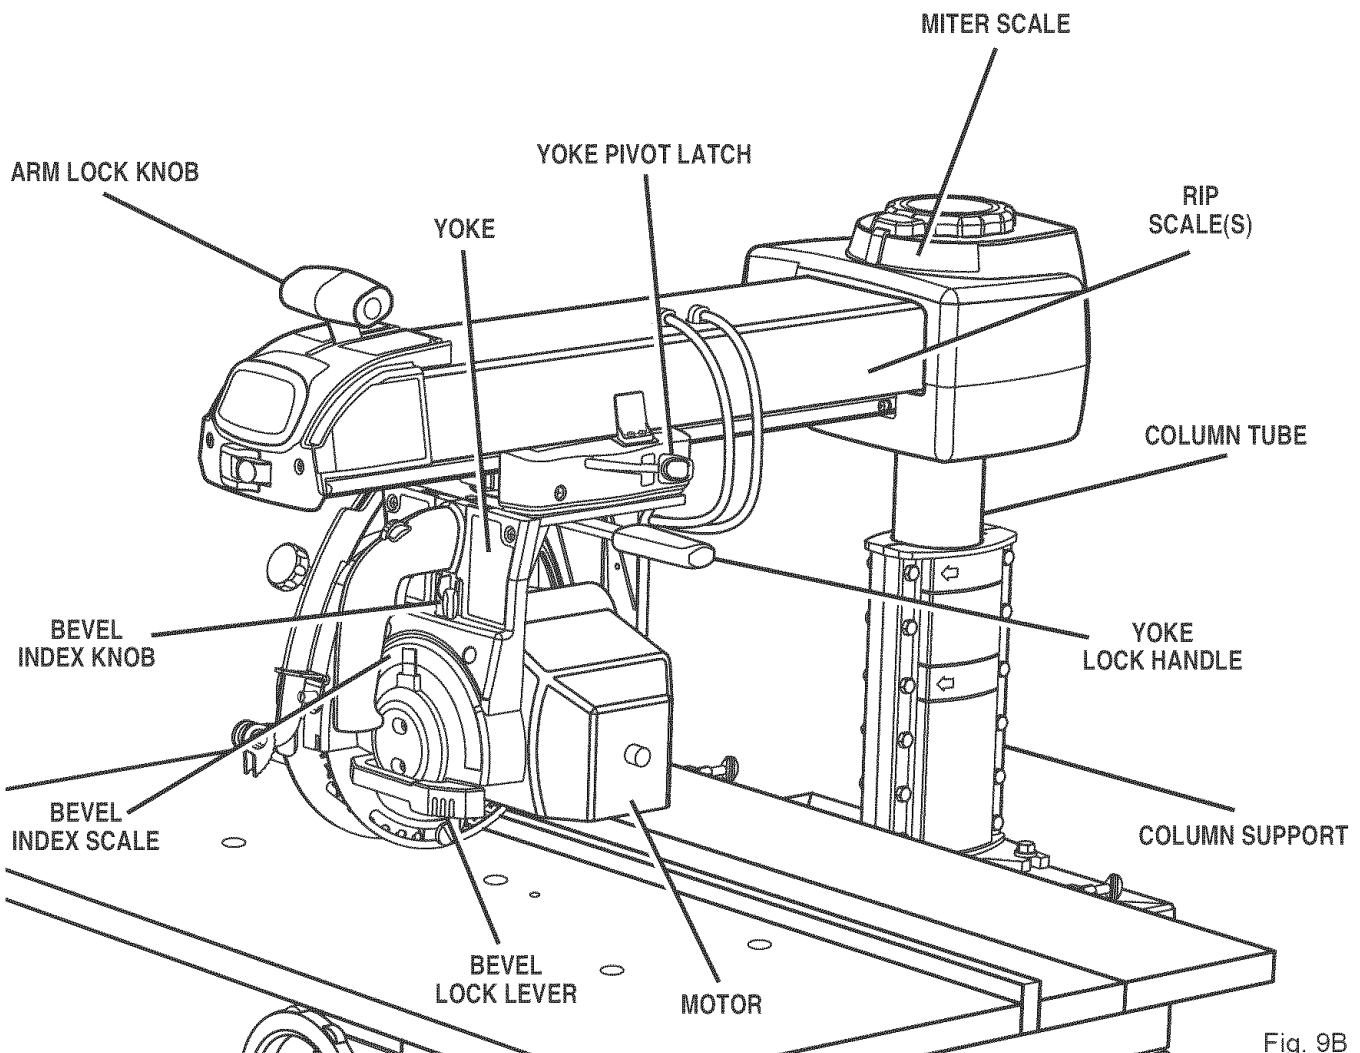

Fig. 9B
**BEVEL INDEX KNOB** - Controls the blade angle between positive stops at 0°, 45°, and 90°. Located behind the handle. See Figure 9B.
**BEVEL INDEX SCALE** - Shows the blade angle for bevel cuts and is located behind the handle. See Figure 9B.
**BEVEL LOCK LEVER** - Sets and locks blade angle. It is located below the handle. See Figure 9B.
**MITER SCALE** - Shows the miter angle setting of the arm. *See Figure 9B.*
**MOTOR (13.0/6.5 AMP)** - Powers the blade and is controlled by the switch and key at the front of the arm. The powerful induction motor has a capacitor start. It is mounted in the yoke and rotated with the bevel index knob and bevel lock lever. *See Figure 9B.*
**RIP SCALES** - Show the distance from the fence to the blade. (In-rip scales are on the right side of the arm, and out-rip scales are on the left side.) Upper scales show the distance with the fence beside the front table. Lower scales show the distance with the fence in farthest back position. *See Figure 9B.*
**YOKE** - Supports the blade and motor. Can be pivoted to index the blade between rip and cross cuts. Located between the carriage and the motor. *See Figure 9B.*
**YOKE PIVOT LATCH** - Indexes the yoke (after it is released) to position the blade to face right (out-rip cut), front (cross cut), or left (in-rip cut). Located on the right carriage cover. *See Figure 9B.*
**YOKE LOCK HANDLE** - Releases the yoke to allow indexing for rip cut or cross cut. Located below the yoke, on the right. *See Figure 9B.*